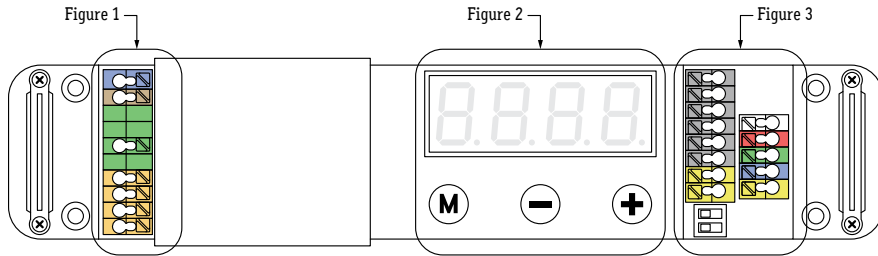

FIGURE 1 (INPUT)
- Do not cover LED Lightstrip with any material, as it may cause LEDs to overheat, melt, or ignite. **(Fig. 1)**